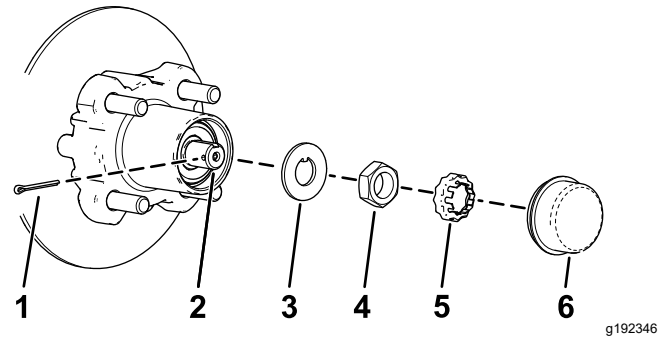
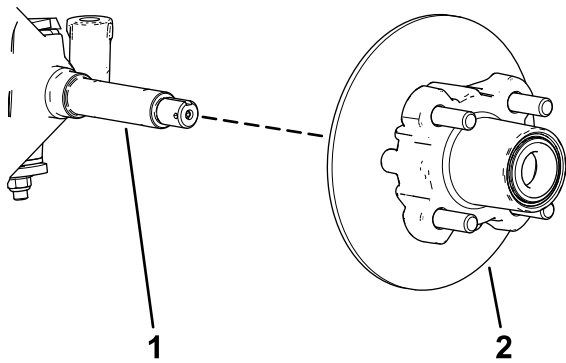

Figure 30
Figure 31
4. Remove the dust cap from the hub (Figure 30).
5. Remove the cotten pin and nut retainer from the spindle and spindle nut (Figure 30).
6. Remove the spindle nut from the spindle, and separate the hub and rotor assembly from the spindle (Figure 30 and Figure 31).